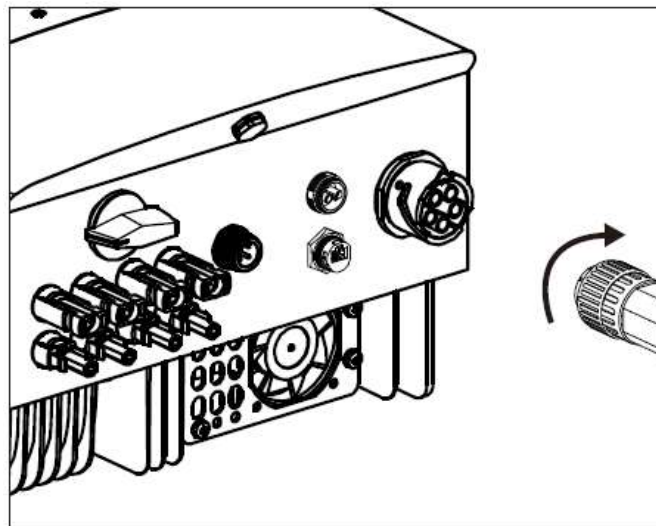

Figure 7.14.6 AC connector to inverter
3) Connect AC connector with inverter, then tighten AC connector for clockwise (see figure 7.14.6), until hearing a slight clicking sound indicates connection succeed.